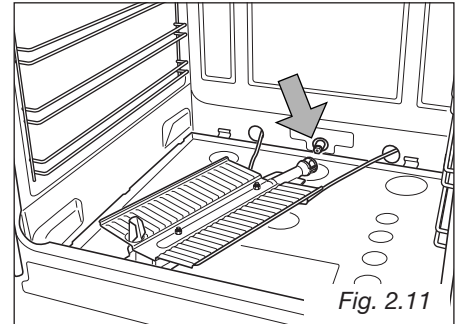

Fig. 2.11
- Withdraw the burner as shown in figure 2.11 and rest it inside the oven. Take care not to damage the wire to the ignition electrode and the safety valve probe.
- Using a 7 mm box spanner, unscrew the injector (indicated by the arrow in fig. 2.11) and replace it by the proper one according to the kind of gas.